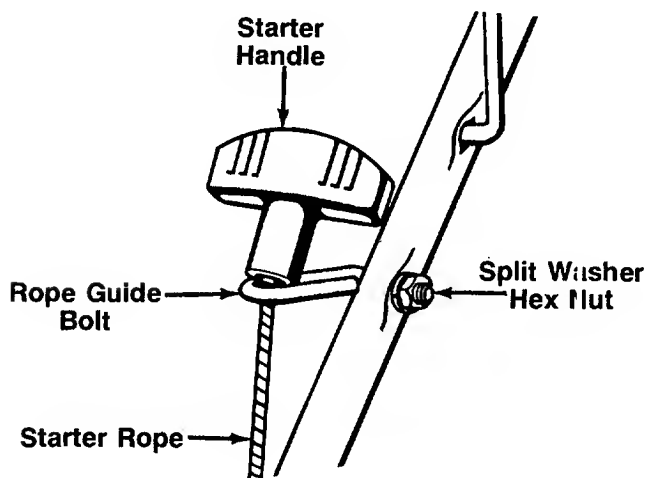

FIGURE 8.—Models 074R and 084R Only
1. **Models 074R and 084R:** Insert the rope guide bolt through the hole provided in the right side of upper handle. Secure with split washer and hex nut, finger tight only. See figure 8.
4. Slip the starter rope into the rope guide bolt as shown in figures 8 or 9.